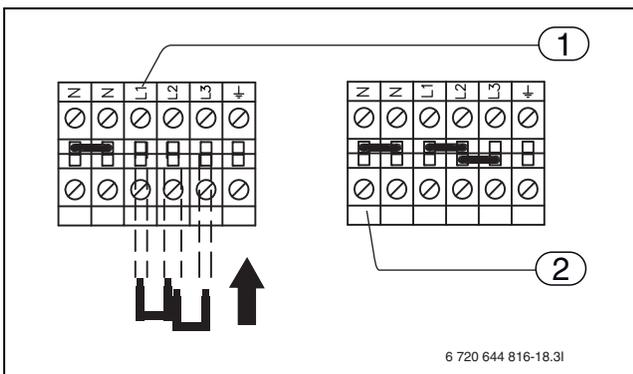

Fig. 34 Positioning of jumpers in the Hydrocomfort unit, 1-phase
▶ To change the hydrocomfort to 1-phase version, insert the jumpers in accordance with Fig. 34.